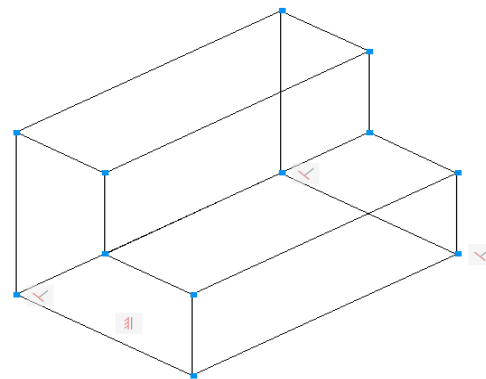

Figure 2-41 Final 3D model for Example 2
9. Similarly, draw other lines to complete the model. The final model should look similar to the one shown in Figure 2-41.